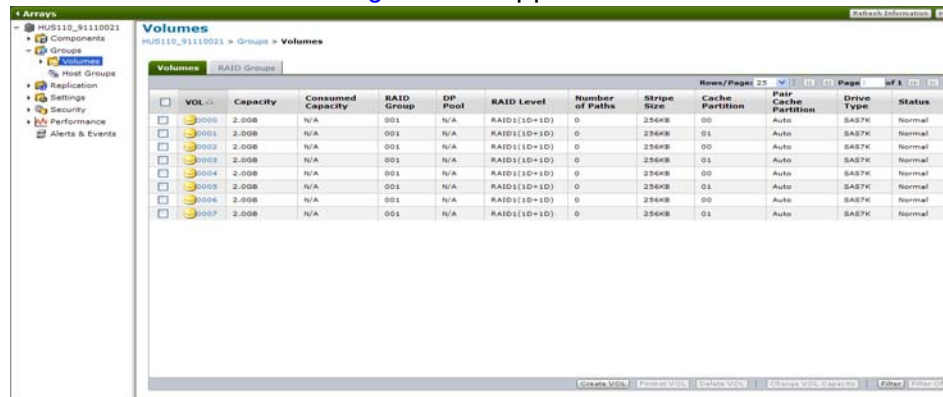

Figure 7-8: Volumes tab
- Click the **Volumes** tab. Figure 7-8 appears.
5. Click the **Volumes** tab. (See Figure 7-8 on page 7-18)